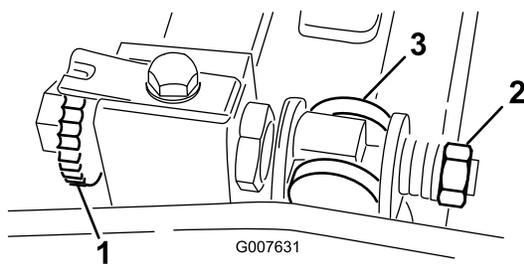

Figure 54
1. Turn the bedbar adjuster screw counterclockwise to back the bedknife away from the reel (Figure 54).